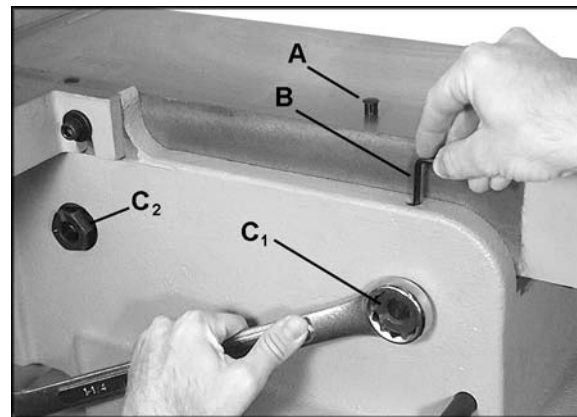

Figure 22
9. Each table has four cam adjustment devices; two in front and two in back. (C, Figure 22 shows one of these).
11. At the area of the table where the adjustment must be made, pry out the cap (A, Figure 22) from the hole.
12. There are two set screws in the hole. Insert a 4mm hex wrench (B, Figure 22) into the hole and loosen the upper set screw by turning the hex wrench counterclockwise. Remove the upper set screw from the hole.
14. Turn the hex nut (C1, Figure 22) with a 1-1/4" wrench. **This adjustment is sensitive and should be made in small increments.**
NOTE: The rotation is different for left and right hex nuts; the right hex nut (C1) being turned in Figure 22 will be turned clockwise to raise that area of the table, or counterclockwise to lower that area of the table. The left hex nut (C2) shown in Figure 22 would be rotated in the opposite manner.
16. When the adjustment is satisfactory, with the tables now coplanar, tighten the lower set screw with the hex wrench (B, Figure 22).
18. Re-insert the cap (A, Figure 22) to keep dust and debris out of the hole.